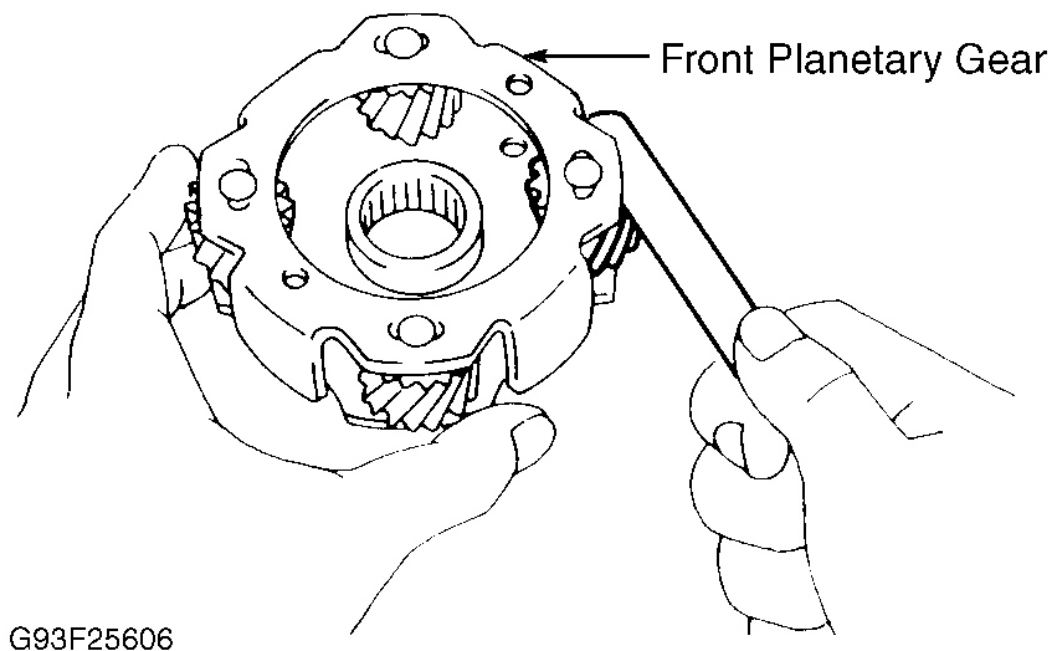

Fig. 29: Measuring Planetary Gear Thrust Clearance
3. Measure planetary pinion gear thrust clearance. Standard clearance should be .008-.020" (.20-.50 mm). Maximum clearance is .020" (.50 mm). If clearance exceeds specification, replace planetary gear. See **Fig. 29**.
3. Measure planetary pinion gear thrust clearance. Standard clearance should be .008-.020" (.20-.50 mm). See **Fig. 29**. If clearance exceeds specification, replace planetary gear assembly.